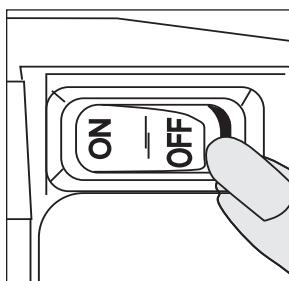

Figure 1
3. Make sure the power switch is in the "Off" position (Fig. 1). Unwrap power cord and plug power cord into an appropriate wall outlet (refer to *Specifications*). Plug models 5650H & 4650D into a grounded wall outlet (refer to *Grounding Instructions*).
1. Make sure the power switch is in the "Off" position (Fig. 1) and unwrap power cord.
9. Press the power switch "On" (Fig. 1) to start the compressor.